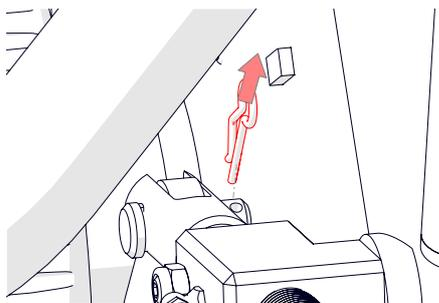

Fig.12E - Remove the shear blade R-clip
5. Remove the R-clip from the clevis pin securing the shear blade adjuster from each side of the machine (Fig. 12E).